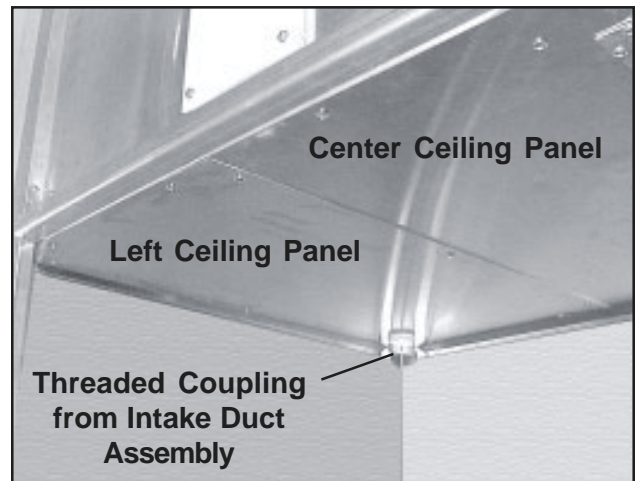

Figure 36. Left Ceiling Panel in Place
Next you will install the left ceiling panel. At the left rear corner of the panel is one 2-1/2 in. hole (Figure 36). No air sensor lines pass through this panel.
2. Hold the left ceiling panel in place under the base frame to the left of, and overlapping, the center panel (Figure 36).
4. Secure the panel to the base frame with ten 1/2 in. Phillips screws into the holes in the front, rear, and sides (Figure 36). The three screws on the right side also secure the center ceiling panel.